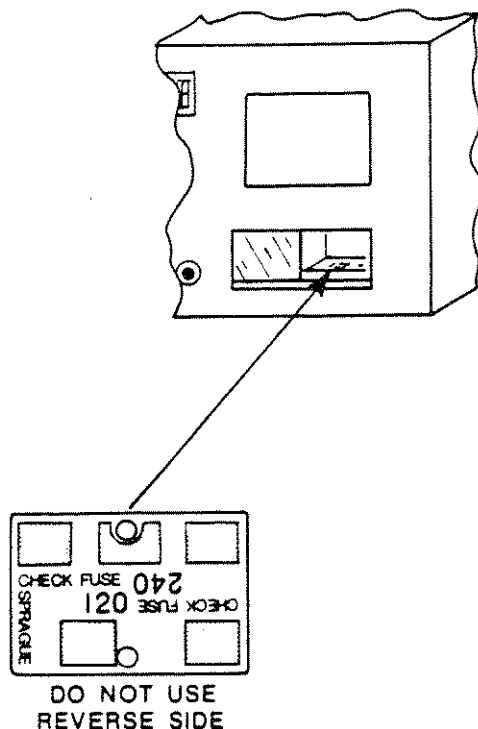

Figure 2-2. Inserting Voltage Selection Circuit Card
- b. To expose the voltage selection circuit card, refer to figure 2-2, slide the fuse cover to the left, and note the placarded voltage value (120 or 240).
- c. Using a needle nose pliers, grip the voltage selection circuit card and gently extract it (figure 2-2).